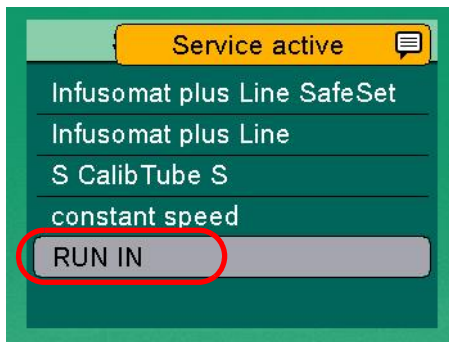

Fig. 4 - 3
6. Confirm " Do not use at Patient" with "OK" (Fig. 4 - 2).
8. Select "RUN IN" and confirm with "OK" (Fig. 4 - 3).